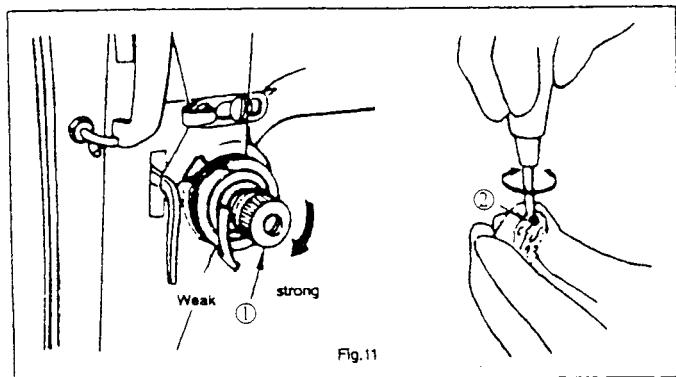

Fig.11
9. Needle and Bobbin Tensions (Fig. 11)